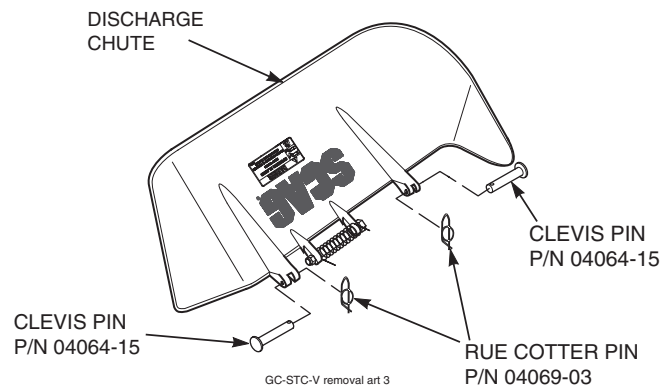

Figure 3-2. Reinstalling the Discharge Chute
5. Re-install the side discharge chute to the opening on the cutter deck. Replace the two (2) outside mounting bolts on the discharge chute with the clevis pins (p/n 04064-15) and rue cotter pins (p/n 04069-03). See Figure 3-2.